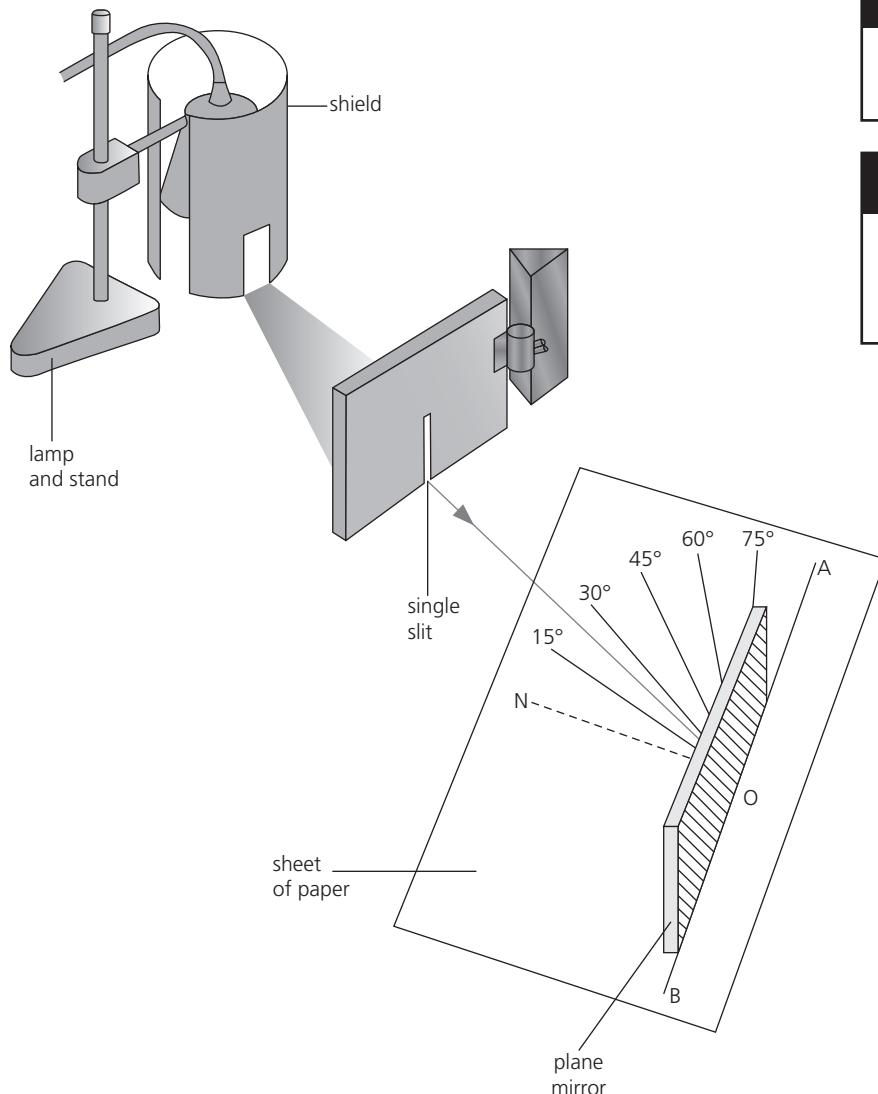

Figure 1 Experimental apparatus used to investigate the law of reflection, $i = r$
- On Figure 2, use a protractor to draw in lines from O at 15° , 30° , 45° , 60° and 75° to the normal ON (as indicated in Figure 1).